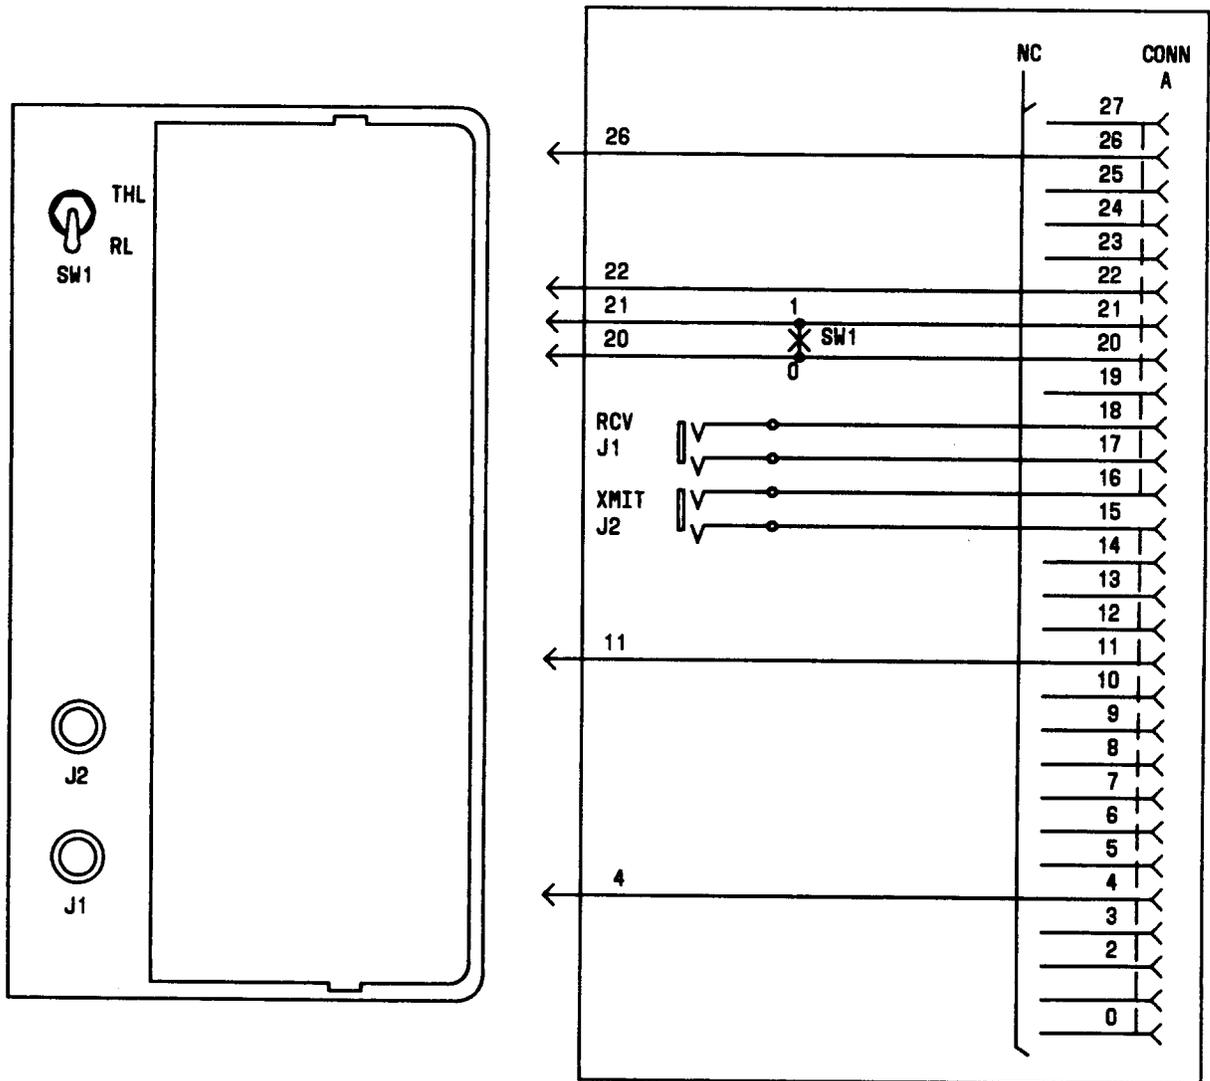

Fig. 10—956A Extender Tool
- 2.43 956A:** The 956A extender tool (Fig. 10) is used during the adjustment procedure of 4-wire trunk hybrid balancing networks of the Common Channel Interoffice Signaling (CCIS) Continuity Check Transceiver or the CCIS Continuity Check Diagnostic Test Circuit.